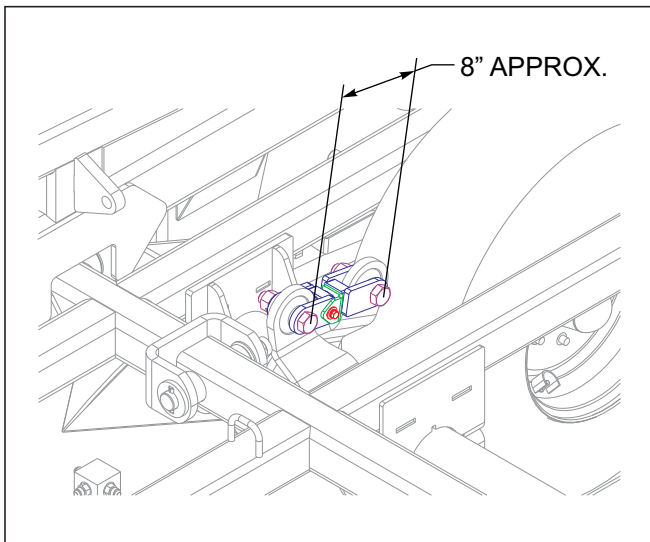

Figure 4-16: Turnbuckle Adjustment
7. With the cylinders still fully retracted, install the adjustable turnbuckles between the main lifts and the idler lift. This will ensure the lifts are properly timed and not binding. The turnbuckle center-to-center measurements will be set at approximately 8" long **See Figure 4-16.**